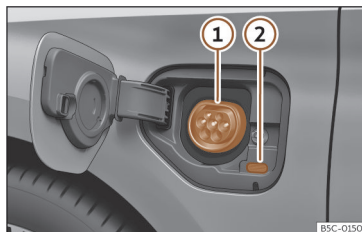

Fig. 194 Behind the battery charging cover on the front left-hand side: Charging socket
>>> **Fig. 194**
- With the vehicle unlocked, the battery charging cover opens when it is pressed >>> **Fig. 194**.